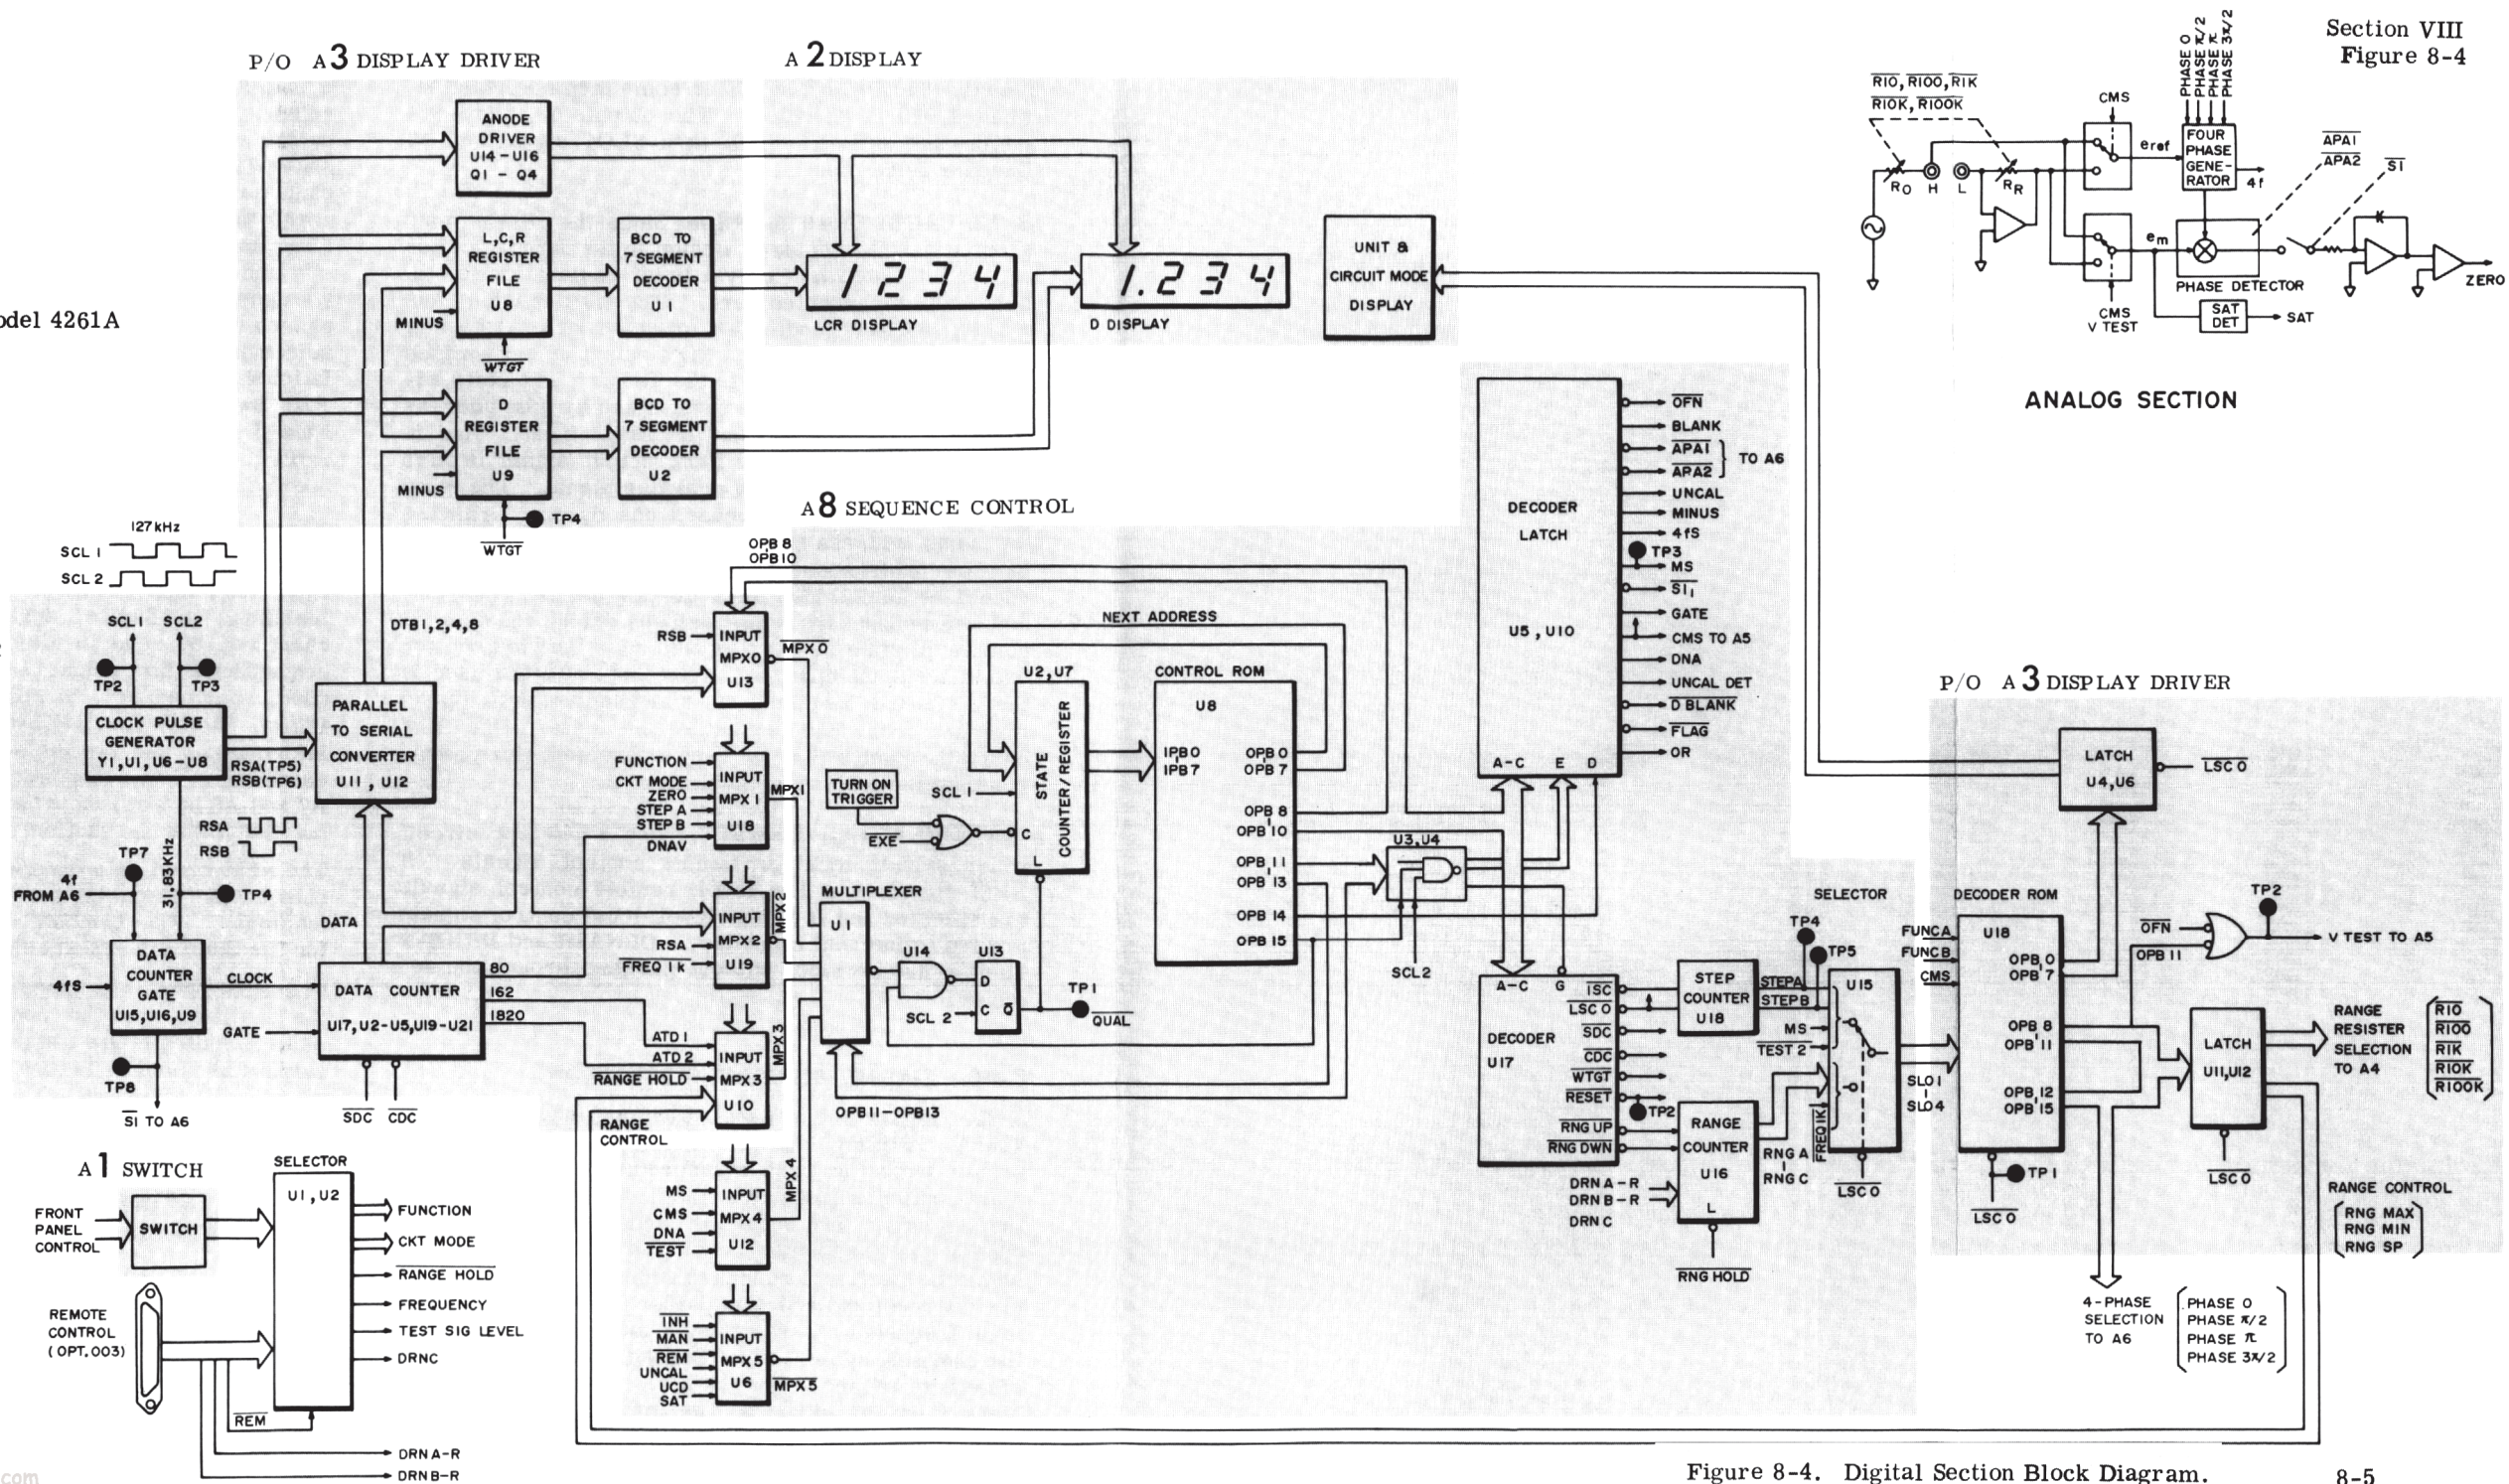

Figure 8-4. Digital Section Block Diagram.
**8-17. Digital Block Diagram.** Figure 8-4 is the block diagram of the 4261A digital section. The construction of this diagram is based on the actual printed circuit board assembly. Thus, the diagram may be quite helpful when studying the function of an individual board or its schematic and trying to relate it to overall digital circuitry. In the following several paragraphs, each board assembly is described somewhat in detail.
**8-19. A3 Display Driver Board.** This board is divided into two parts, one of which is a numeric display driver (top left in Figure 8-4). The other circuit is a unit/circuit mode driver and range/phase decoder (right bottom in Figure 8-4). In the numeric display driver, the measured serial data from A7 Board is filed in A3U8 and U9 registers whose outputs are decoded into a data format suitable for lighting the 7-segment displays on the A2 Board; this is accomplished by the A3U1 and U2 decoders and the anode drive signals generated by A3U14 thru U16 and A3Q1 thru Q4 by inputting RSA and RSB signals from A7 Board. In the unit/circuit mode driver section of the board, decoder ROM U18 functions as a unit/circuit mode decoder and as a range control decoder only when the LSC0 signal is enabled. During other periods, the ROM works as the decoder for phase selection control and V TEST signal generation. Information on unit/circuit mode and range is stored in latches A3U4, U6, U11 and U12 to hold the information for at least one measurement cycle.
Figure 8-6 is an ASM chart which is similar to a flow chart and describes all the digital operations, including, of course, analog circuit control. This chart can be read in almost the same manner as a conventional flow chart. The chart is probably best used, as necessary, in combination with Figure 8-4 Digital Section Block Diagram, Table 8-1 Mnemonic Information, and circuit schematics. The chart is essential in troubleshooting the digital circuits (A3, A7 and A8 boards), so it may be referred to throughout the following section on digital troubleshooting.